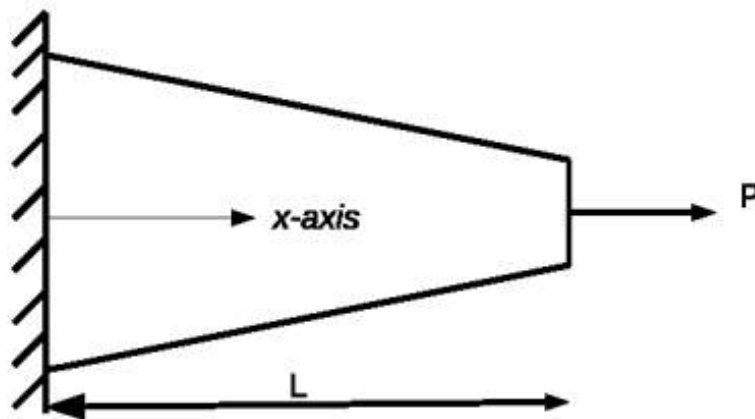

Figure 1: Schematic of a tapered bar subjected to load P at its end.
1. In Fig. 1, let cross-sectional area A vary linearly from $3A_0$ at $x = 0$ to A_0 at $x = L$. Model the bar using discrete springs/elements. To determine the stiffness of the discrete springs/elements, consider the cross-sectional area of each element to be that of the actual bar corresponding to the location of element midpoint. Assume that elastic modulus E is constant. Do the following: